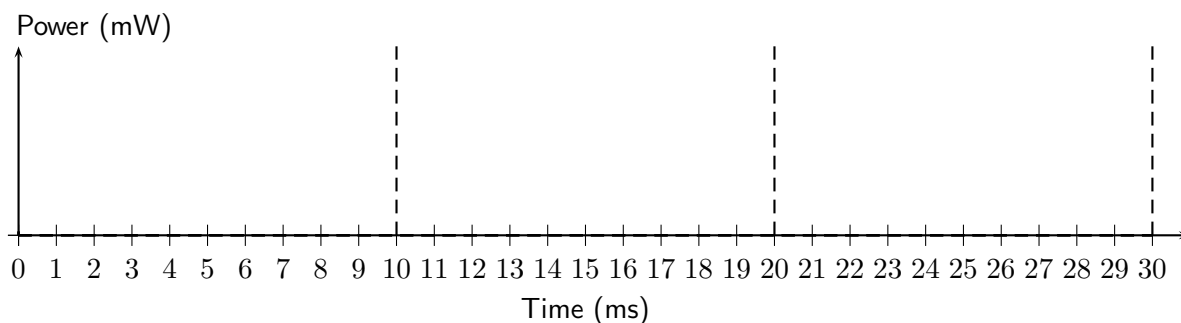

Abbildung 21: Diagram for Aufgabe 3.2 (b)
- (b) (3 Punkte) Plot the power consumption as a function of time when the above tasks are executed under work-conserving schedule with switches to standby mode whenever there are no tasks waiting to be executed. Please use Figure 21. What is the value of E_{av} ?